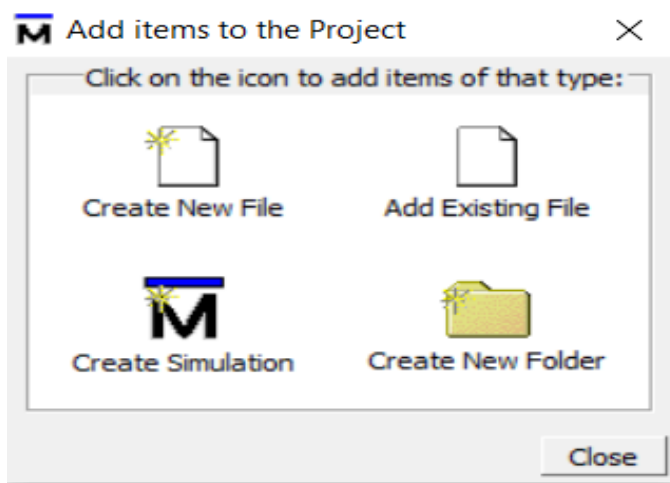

Figure 2.2 Add items
3) After that, it will pop up a window called Add items to the Project (Figure 2.2). Because the files required for this project have been downloaded from Canvas. We just click on *Add Existing File*.